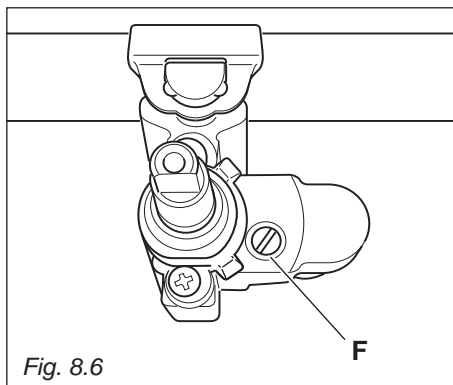

Fig. 8.6
- With a thin screwdriver turn the screw "F" until adjustment is correct (fig. 8.6).